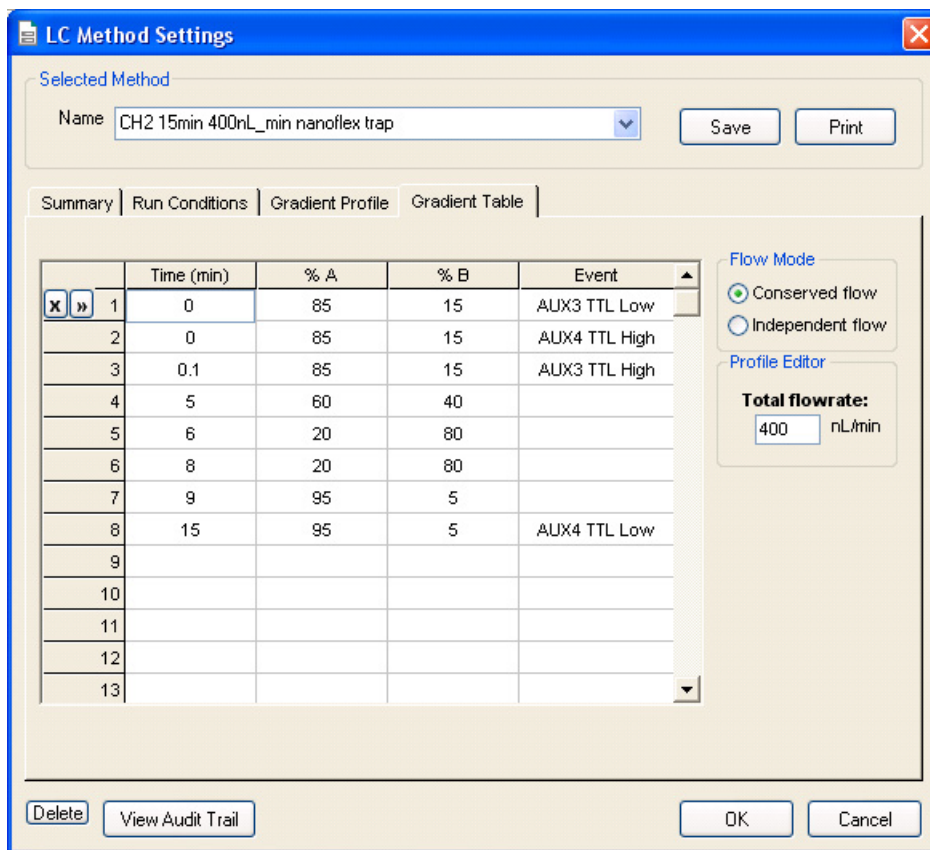
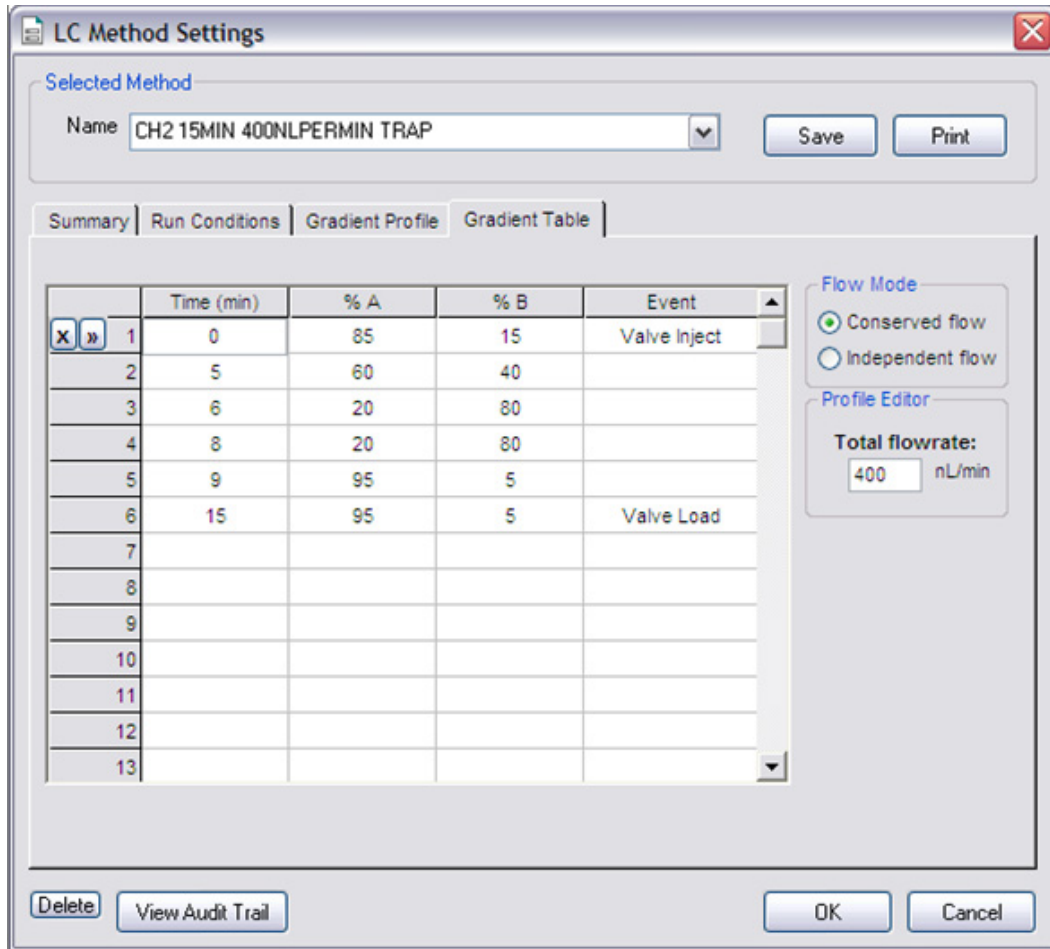

Figure 3-5 LC Method Settings dialog—Gradient Table tab (Nanoflex system)
Figure 3-6 LC Method Settings dialog—Gradient Table tab (column)
4. On the **Gradient Table** tab, specify the method as shown in Figure 3-5 or Figure 3-6, depending on the installation.